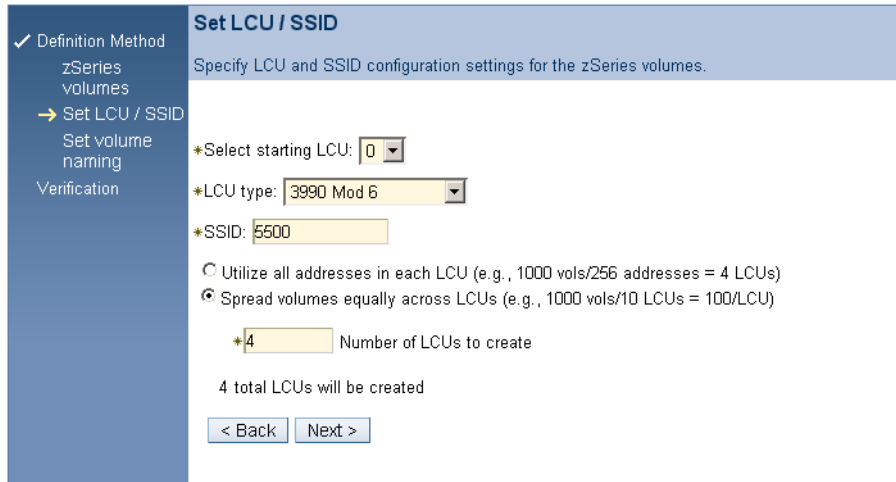

Figure 11-16 Express configuration: Specifying LCUs (logical control units)
4. Selecting **Next** opens the Set LCU/SSID window, Figure 11-16, where you can set up the LCUs (logical control units) you want to configure for your Storage Unit.